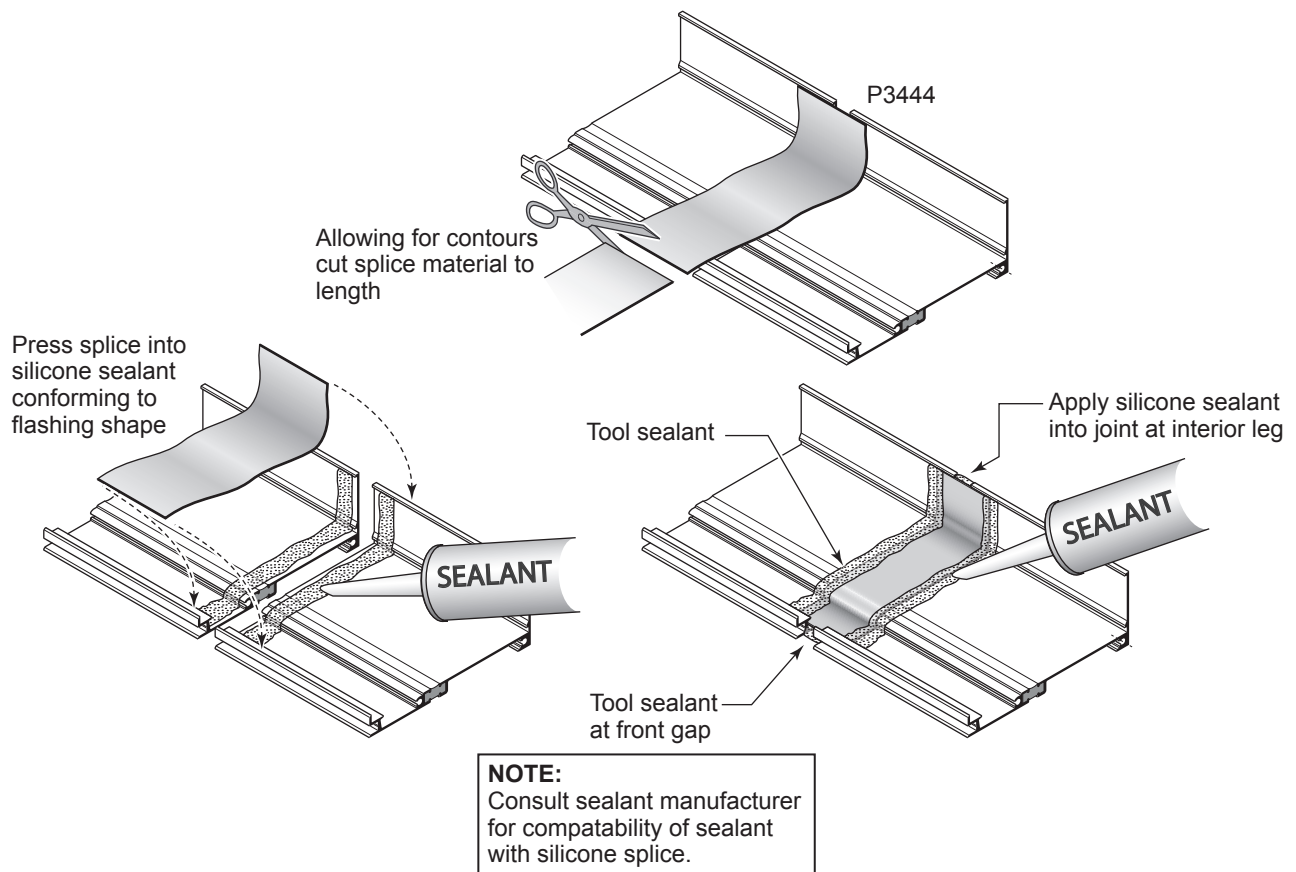

Fig. 37.1
Standard Silicone Splice - Fig. 37.1
- D. Clean surfaces where splice will be applied. Apply sealant as shown in Fig. 37.1.
- C. Splice corner flashing to sill flashing using procedures shown on page 37 and 38. See **Fig. 37.1** & **Fig 38.1**